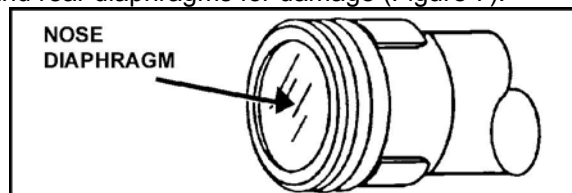

Figure 7. Nose diaphragms.
- b. Check the nose and rear diaphragms for damage (Figure 7).